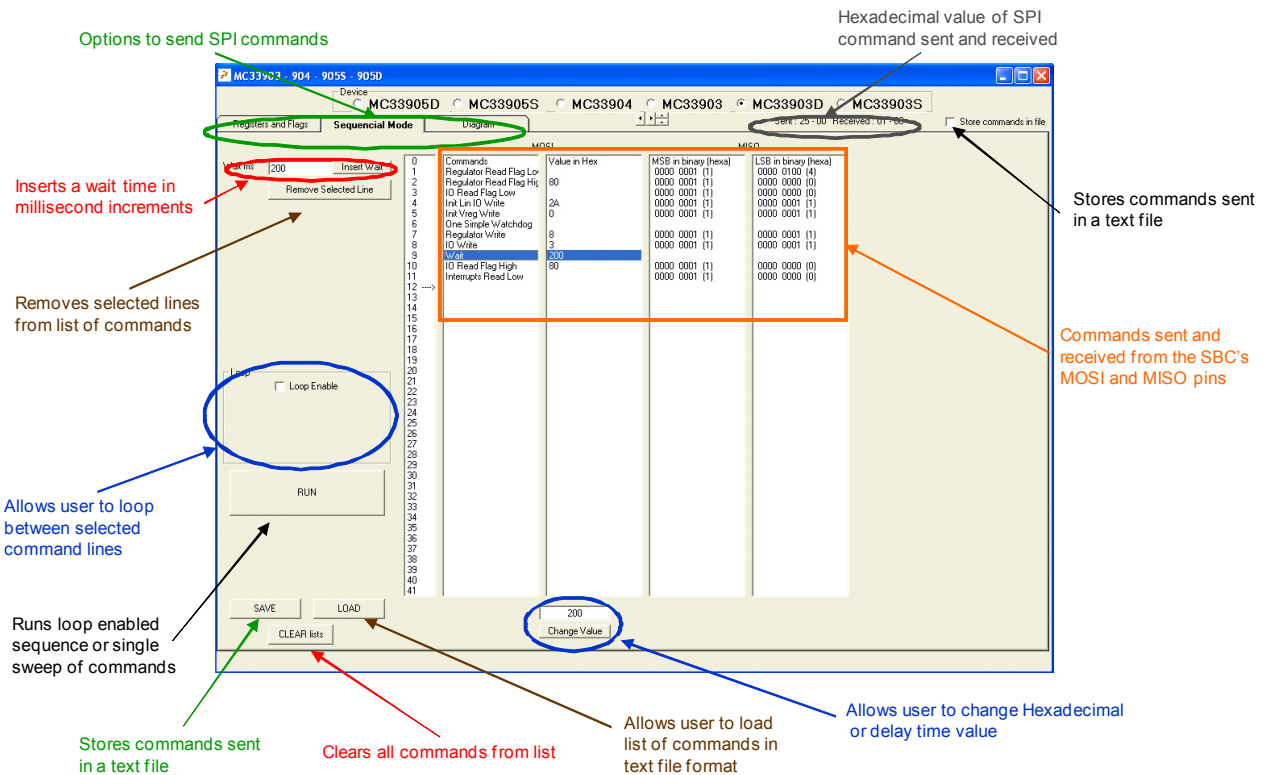

Figure 8. SPIGen Graphical User Interface (Sequential Mode)
1. Click **Sequential Mode** tab. This window displays all commands in the Sequential Mode sequence as shown in Figure 8.